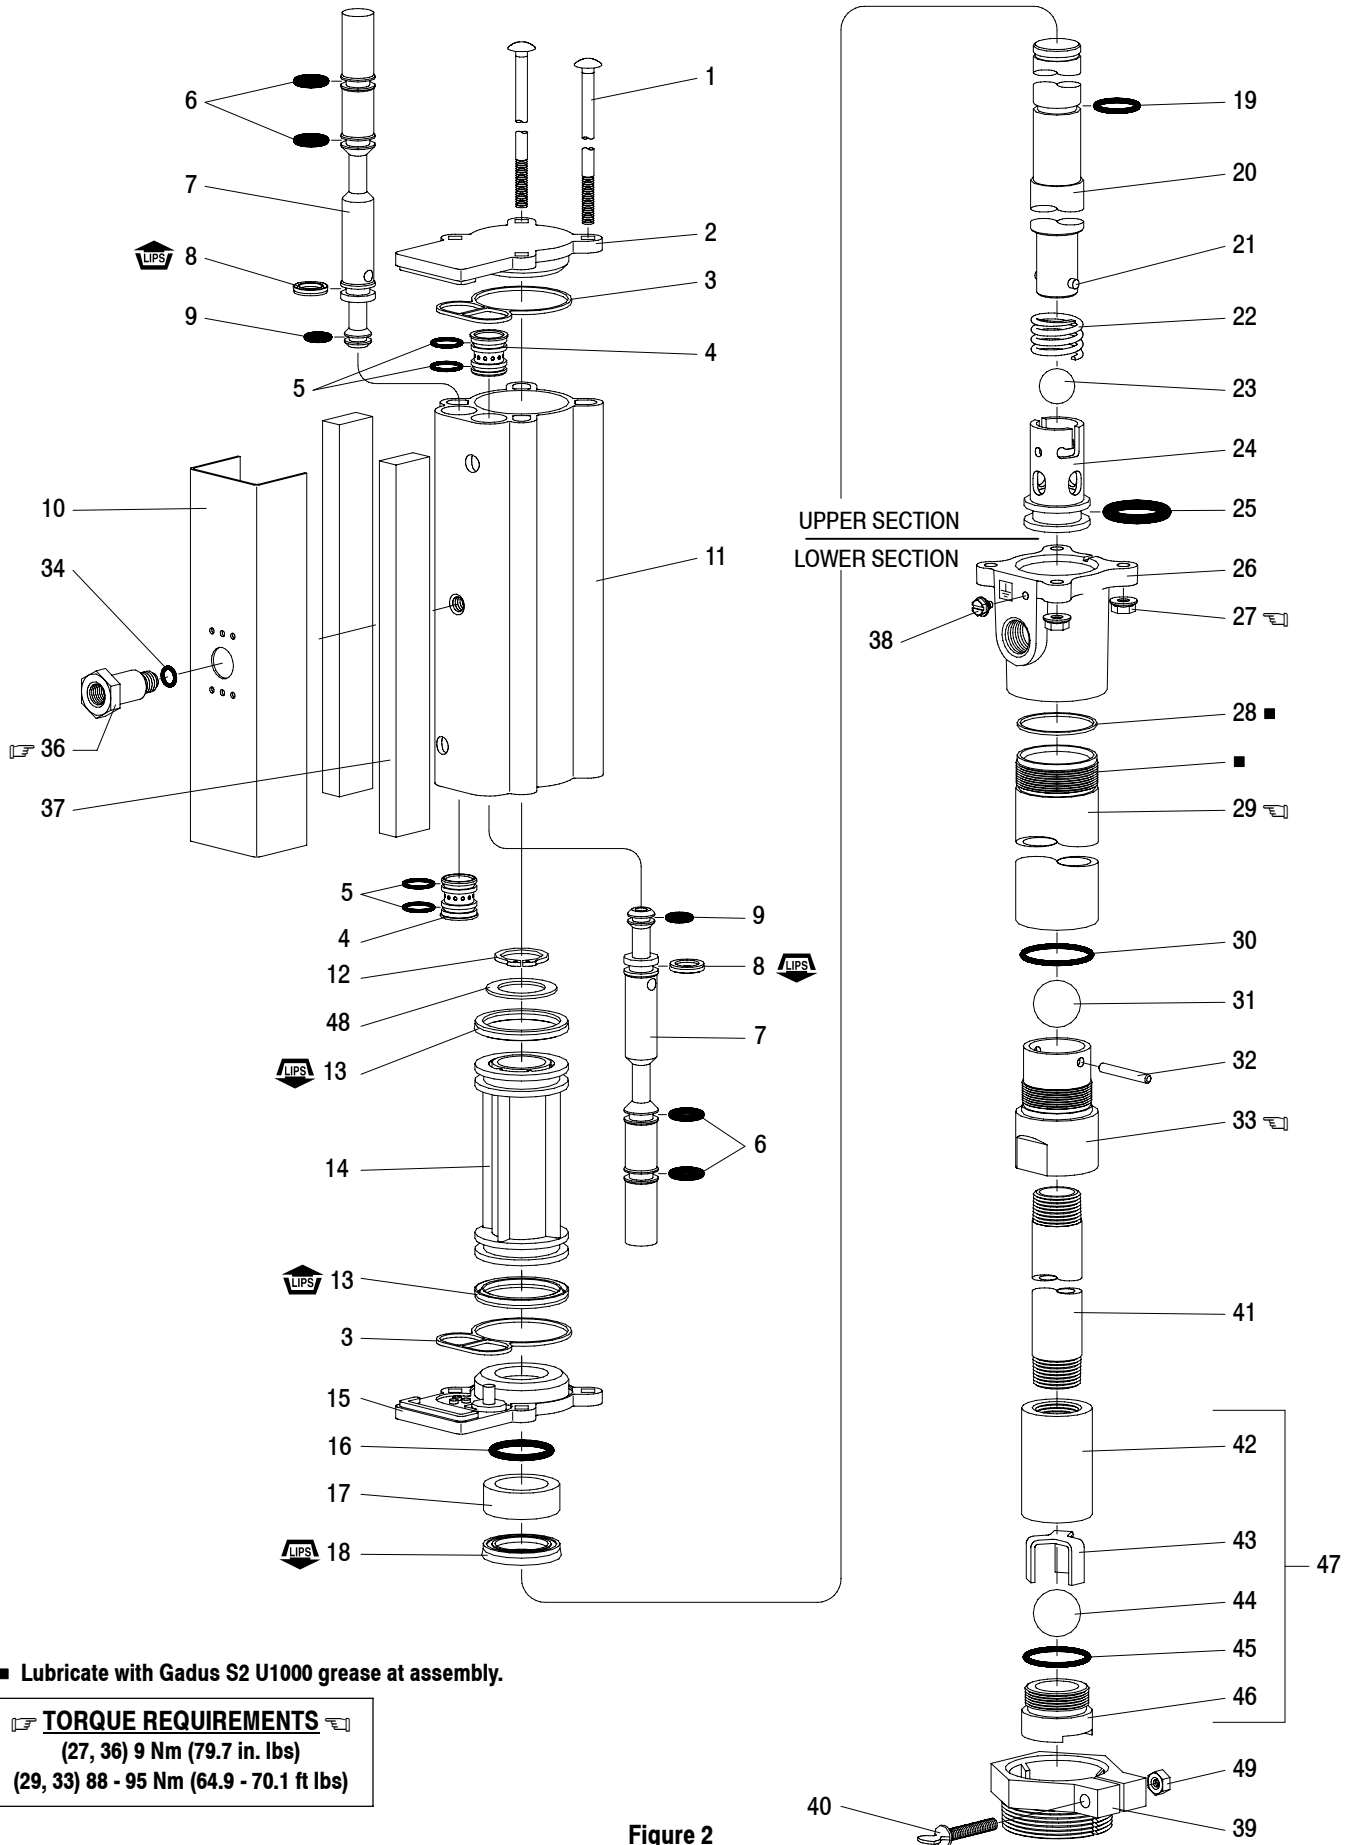

Figure 2
**NOTICE:** The unique design of this pump allows for quick basic pump service without total removal from the drum (refer to the views below). **DISASSEMBLY - All threads are right hand. Refer to figure 2. These procedures are for the installation of repair kit parts. Disconnect air supply and relieve all system pressure prior to servicing.** Carefully remove the parts, inspect parts for damage, nicks or excessive wear and determine if any parts will need replacement.
Note: Refer to the illustration (figure 2) for "U" cup lip seal direction.
1. Replace the seals on both the (7) spools and (4) sleeves.
2. Locate the valve chamber on the (11) cylinder where the 3/8" dia. hole is located and install one of the (4) sleeves. Insert the (7) spool from the opposite end. Next, install the remaining sleeve and spool.
3. Replace the (3) track gasket and install (2) cap.
4. Replace the (13) piston "U" cups (refer to figure 2 for proper orientation). Replace the (19) "O" ring and assemble (14) piston to (20) piston rod and retain with (48) washer and (12) retaining ring.
6. Replace the (3) track gasket and install the (15) cap. Install the (16) "O" ring onto the piston rod, replace (17) bushing and (18) packing.
7. Replace the (25) "O" ring and re-attach the (24) inner check.
8. Slide the pump assembly back into the (26) base / lower pump section. Press the sections together and align the air inlet and pump outlet as required and replace the four (1) bolts and (27) nuts (tighten to 9 Nm (79.7 in. lbs)).